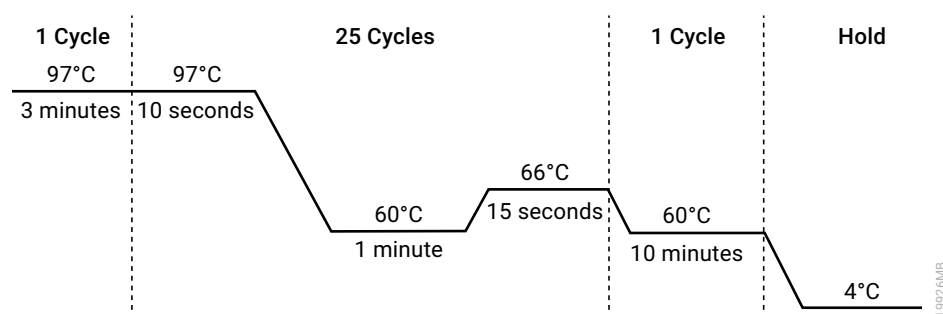

Figure 8. Thermal cycling protocol for the Mastercycler® X50s PCR System.
- Select and run the protocol provided below and in Figure 8. The total cycling time is approximately 70 minutes.